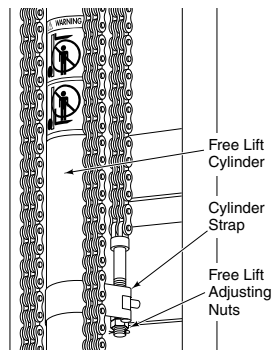

Figure 54. Free Lift Chains.
1. Locate the threaded chain anchors on the front side of the inner upright crossmember on each side of the cylinder. Adjust one chain to achieve the correct upright position when fully lowered. See Figure 54.